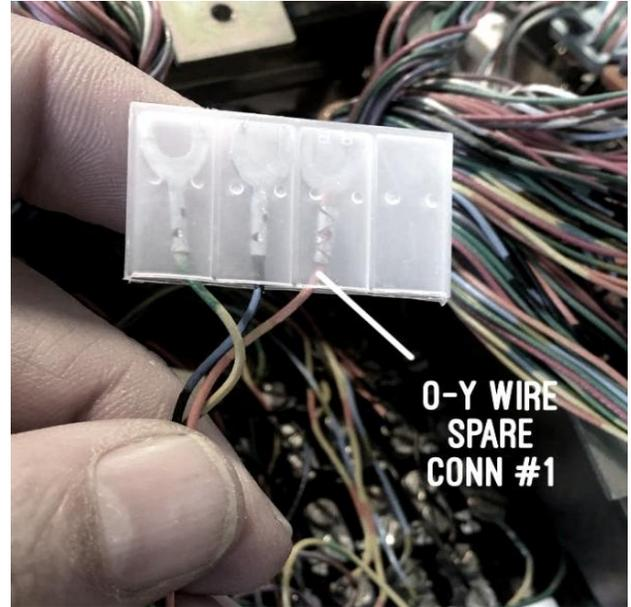

Fig. 19 – O-Y wire spared off in a 2636 Call Director.
- Locate O-Y (usually spared off as shown in Fig. 19), and move it to join the wire on terminal 22.